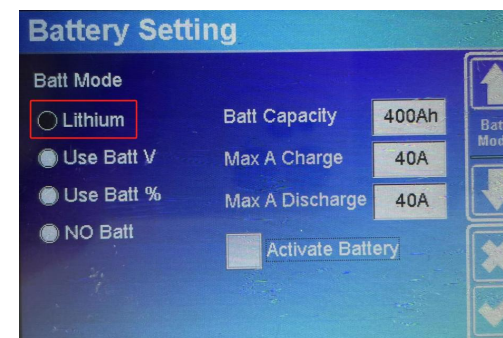

图2
- 2.Click on Battery Setting and set it to Lithium (Figure 2);